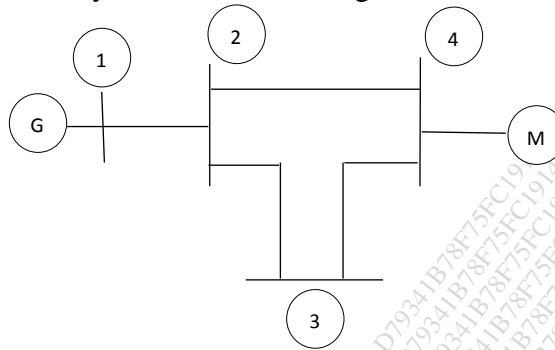

Fig.2
b) For the Power System as shown in fig.2. Obtain the A, \bar{A} and B. Take ground as Reference. 08